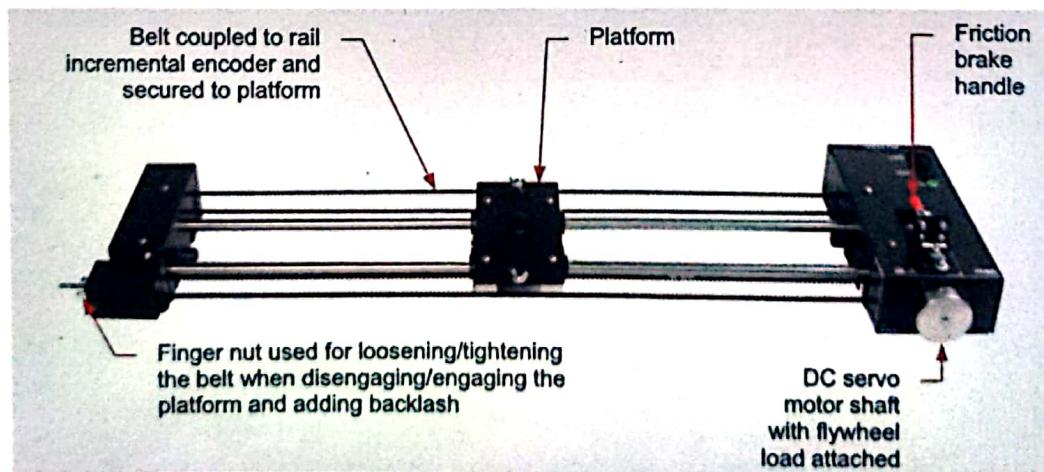
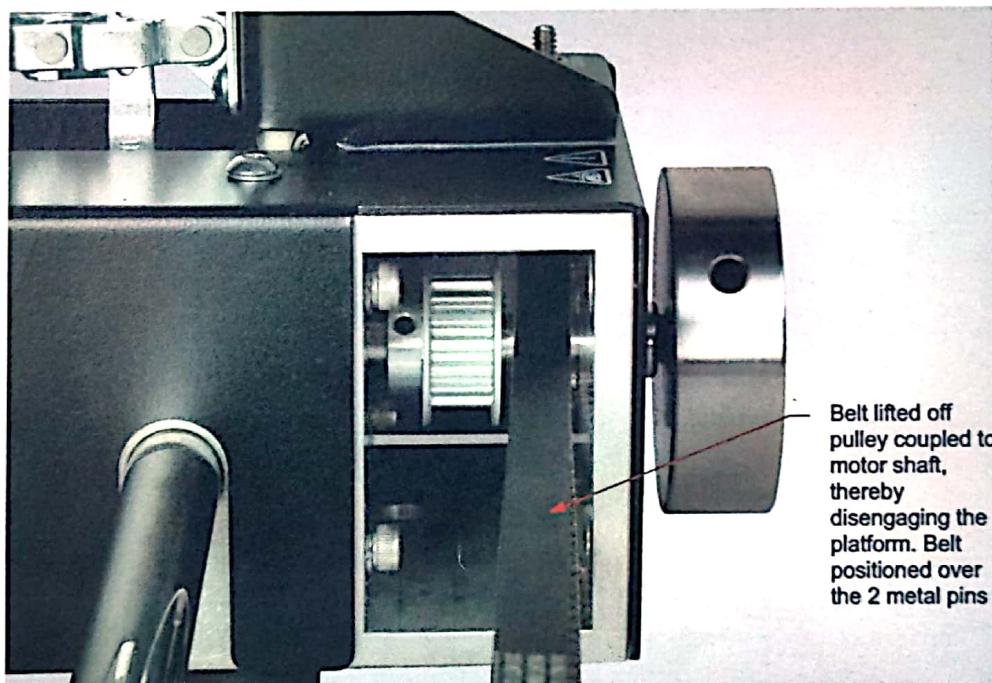

Figure 2. The mechanical unit.
Figure 5. Belt in the disengaged position.
6. Referring to Figure 2 and Figure 5, loosen the finger nut at the extreme right-hand side of the mechanical unit. When the belt is loose, lift it off the pulley and onto the two steel pins, effectively disengaging the platform.